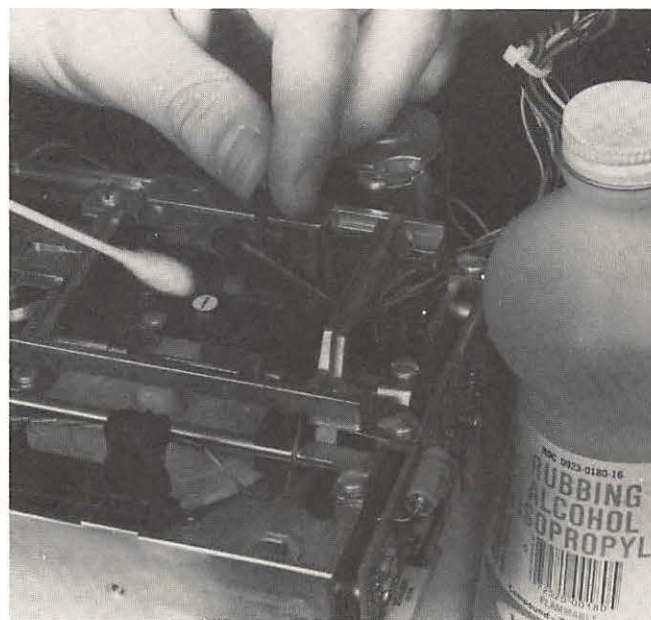

**Fig. 8-10.** Oxides get wiped off the disk surface and build up on the head surface.
2. Heads need cleaning to remove the oxides from your disks that build up on the leading edge of the head (the side facing the direction of disk rotation), as shown in Fig. 8-10.